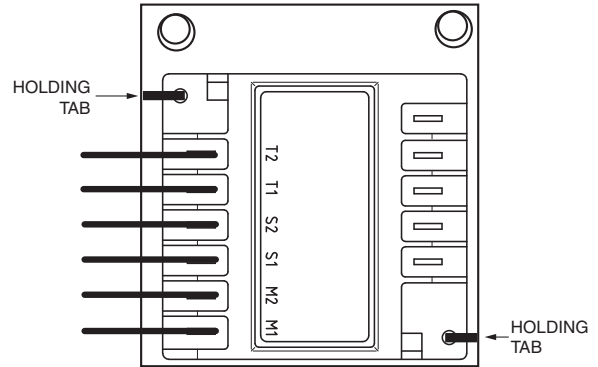

Fig. 63 — Kriwan Motor Protection Module Removal
4. Gently bend the holding tabs holding the Kriwan module in the terminal box and remove the Kriwan module from the terminal box. See Fig. 63.